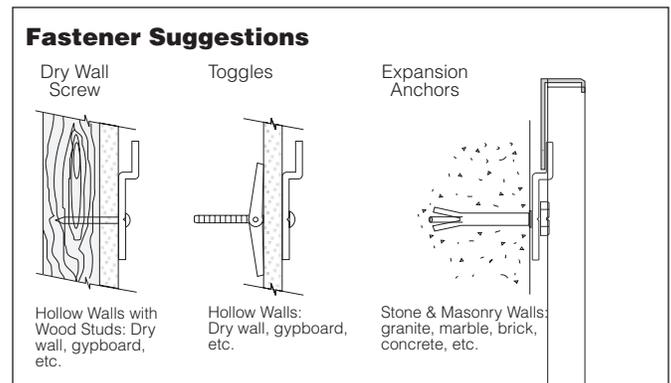

Fig. 4
3. Select fastening hardware. Fastening hardware is not included, owing to the many wall conditions, such as dry wall, wood, masonry and so on. A wide range of fasteners, such as those described below, are available from your local hardware (Fig. 4). Please follow the manufacturers instructions for specific fasteners then secure hanger to wall surface.